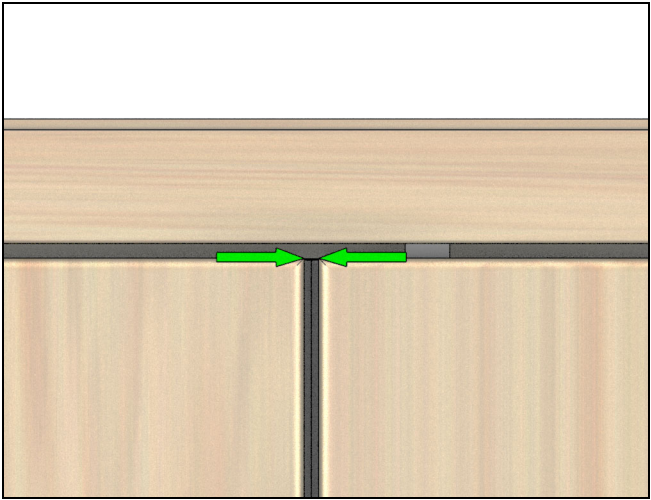

Figure 22
3. Close the panel(s) and check the margin between the active and inactive panel or panel and jambs. The door is designed to have a 1/8" (3) gap between the wood stiles. See Figure 22.